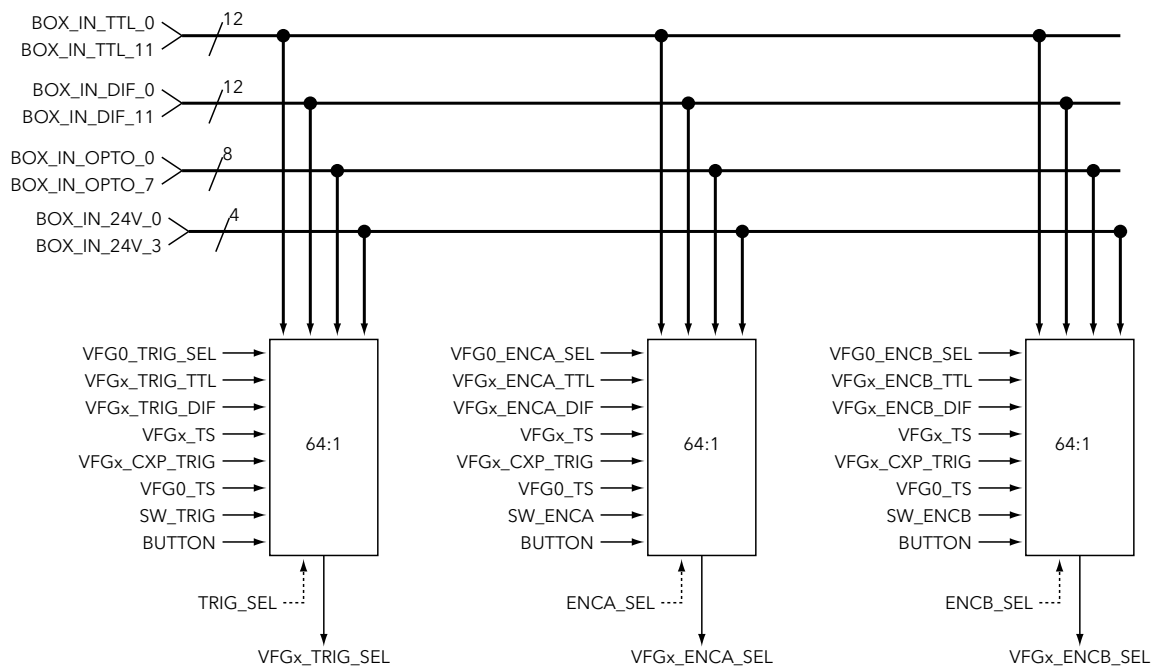

Figure 5-2 I/O System Input Selection
Figure 5-2 illustrates the I/O System input selection circuitry. As discussed above, each internal signal has its own selector. For each internal signal there are 64 possible sources.
*Note: Each VFG has a copy of the circuit shown in Figure 5-2. This is why the outputs do not specify the VFG number (e.g. "VFGx\_TRIG\_SEL"). However, some inputs do specify the VFG number (e.g. VFG0\_TRIG\_SEL), which means this input comes explicitly from VFG0.*